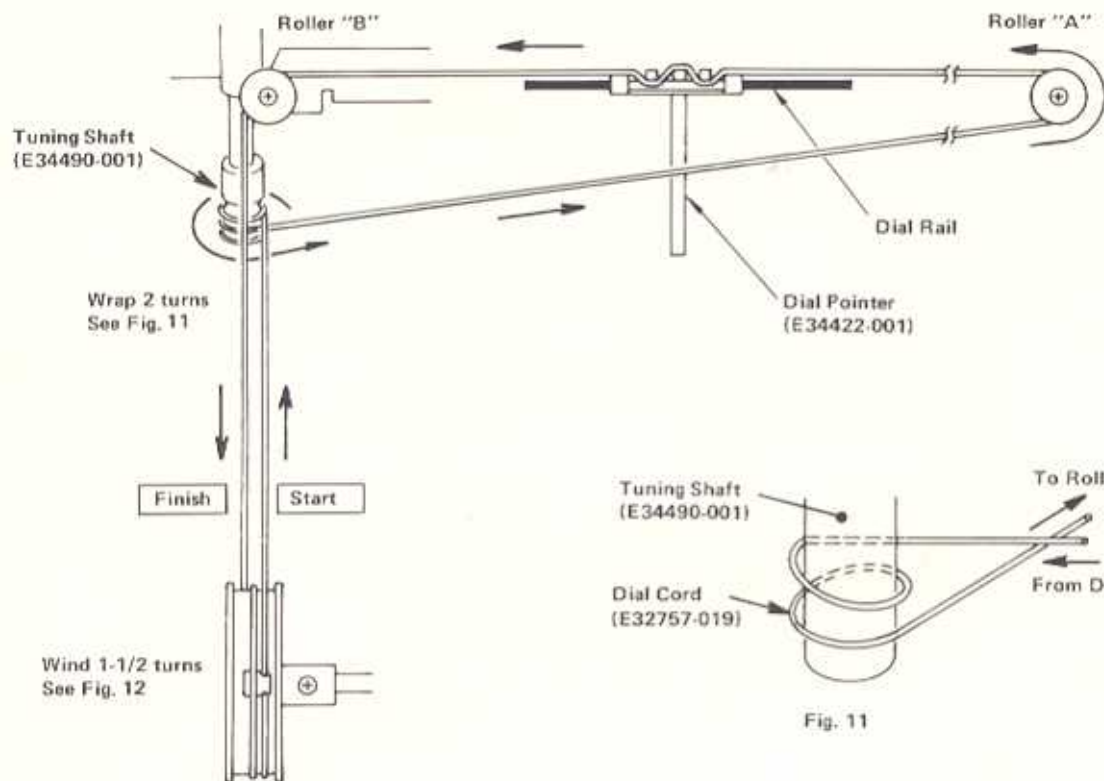

Fig. 10
- c. Remove the dial pointer from the dial rail carefully.**Note:** Refer to Fig. 10 of the dial stringing procedure on page 8 when replace the dial pointer onto dial rail.
- (8) Turn the tuning shaft to rotate the dial drum fully counterclockwise and fully clockwise to distribute the tensioning along the dial cord.
- (9) Place the dial cord over and under the tabs on the rear of the dial pointer and place the dial pointer on the top of the dial panel rail. Refer to Fig. 10.
- (10) Turn the tuning shaft clockwise. Slide the dial pointer to zero (0) calibration marker on the logging scale while holding tuning shaft fully clockwise. Cement the dial pointer to the dial cord to prevent slippage. Allow cement to dry thoroughly.
- (11) Check the dial calibration. Refer to FM/AM Alignment on pages 9 and 10.
- (12) Replace the top cover.